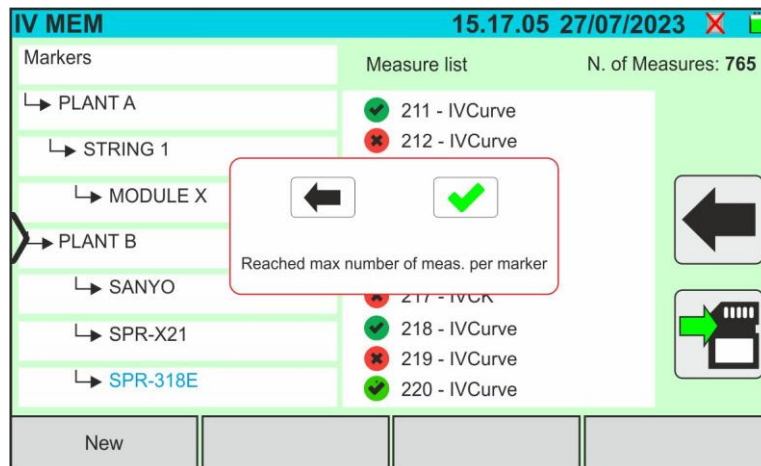

Fig. 87: Displaying results
4. Select a measurement by highlighting it in blue and tap on the **"View Results"** key to display it. In the case of Fig. 87, the following screen is displayed relative to the I-V curve measurement:
1. Tap on the **"Memory"** icon on the main menu to display the data (see Fig. 87)